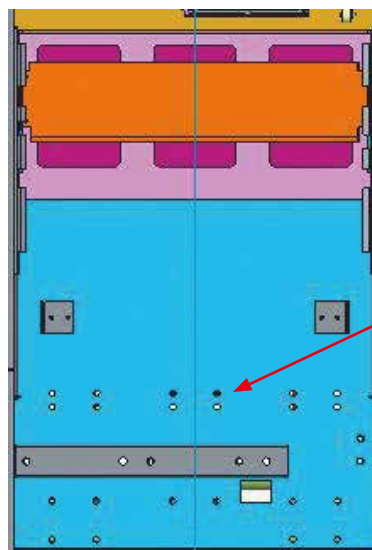

Figure 7.7: Fixing screw of the earthing switch
- Remove the fixing screw of the earthing switch, and then push the bevel gear and the main body of the earthing switch (See figure 7.7)